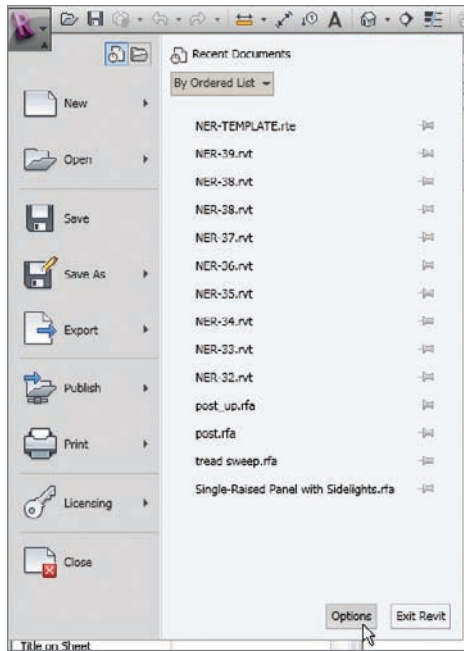

FIGURE 23.3 Finding the Options button
1. Click the Application button. At the very bottom of the menu, you will see an Options button, as shown in Figure 23.3. Click it.